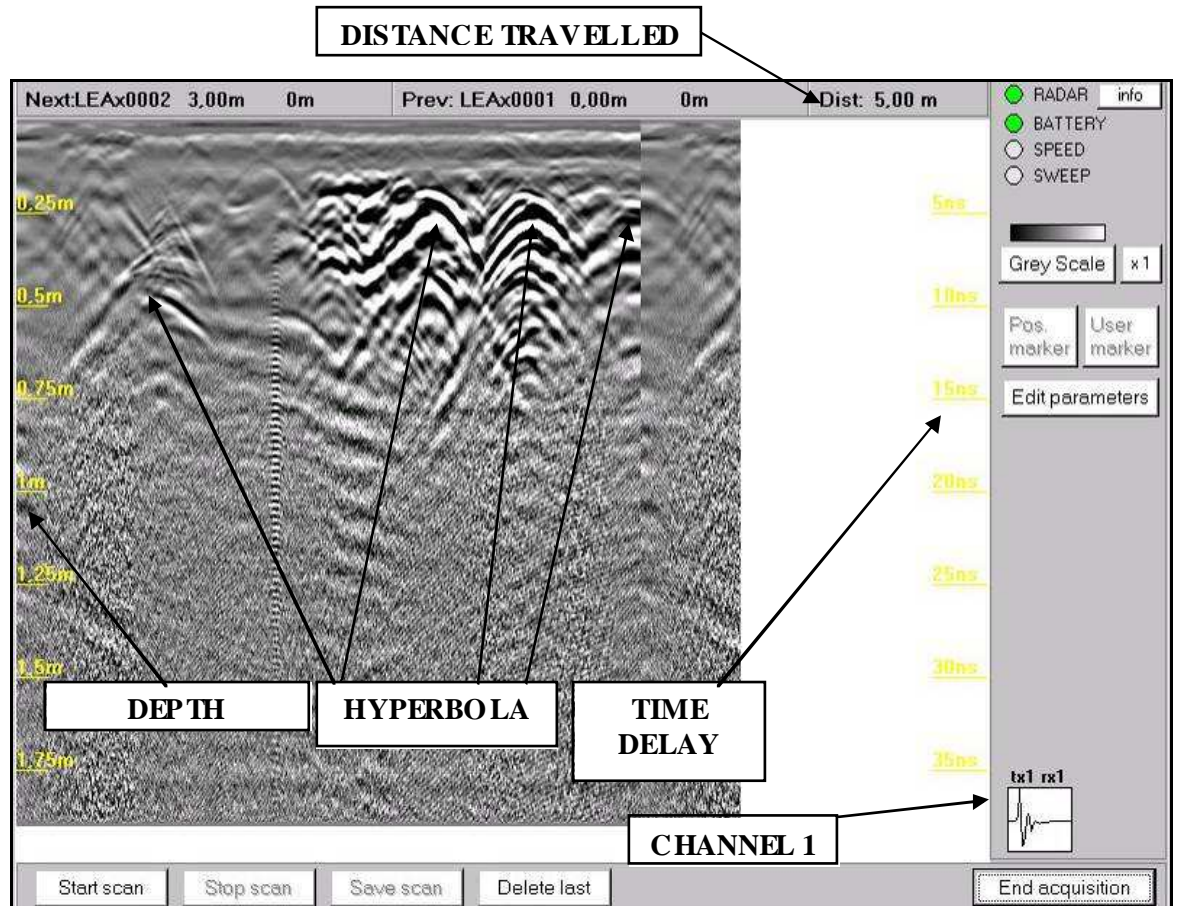

Fig. 4-31 – Radar section during acquisition
- iii. **Marker 1 step:** this field represents the distance between two reference lines marked on the site. The default value is 10 m. This function allows you to realign the radar sections to compensate for any distance variations with respect to the data acquired with the position sensor wheel. This realignment is performed according to the value set in the **Marker 1 step box**. This setting is typically used for realigning longitudinal scans. If you set the marker with a specific position and then press the button shown in Fig. 4-29, contained in the window shown in Fig. 4-31 at a distance of $\pm 20\%$ either before or after this assigned point, the **Pos. Marker** will be transformed into a **User Marker** when the file is saved (see Fig. 4-31 and point 3 of Par. 4.6).
1. Press the  button in the window shown in Fig. 4-27 and start to move the trolley along the desired path (always in the same direction). The results of the single sections will start to appear in real time on the monitor in a window dedicated to channel 1 (see Fig. 4-31). The active channel is indicated with a red box in the sweep window. When a window is completely filled, the data will be written over from left to right and you will notice that the content of the radar section changes line by line. When the system passes across a possible utility or a radar target of any type, typical hyperbola shaped figures will appear with variable contrast in the depth direction corresponding to the impulses received. The presence of targets can be detected by comparing these figures, window by window, however, it is easier to perform this operation during the processing phase. The distance travelled by the trolley (**Distance:....m**) is shown above the radar map in real time, the depth is expressed in meters (**m**) on the left y axis while the time delay expressed in nanoseconds (**ns**) is given on the right y axis as indicated in Fig. 4-31. To visualize another acquired channel in real time, you can click on the small window of the signal corresponding to the desired channel.
2. When you press the Pos. marker button on the window shown in Fig. 4-31, a green line automatically appears on the section at the abscissa.
3. When you come across objects of particular interest such as manholes or macroscopic discontinuities, you can press the User marker button shown in window Fig. 4-31; this will produce a red line at the abscissa.
4. If you move the trolley too quickly, an alarm sounds to warn you that you are losing data; if this problem continues, it is best to stop the scan with the Stop scan button shown in Fig. 4-31 and avoid saving the data by pressing the **NO** button in the window shown in Fig. 4-32.
5. When you want to save the acquired data on the disk, you can choose to press the  button shown in the window in Fig. 4-31, then create the temporary file by pressing the **YES** button in the window in Fig. 4-32.
6. But you can also choose to temporarily save the data acquired up to that point by pressing the  button shown in Fig. 4-31, and continue to push the trolley in the same direction to the end of the scan, then definitively save it using the above procedure. This save scan procedure is particularly recommended for longer scans that may reach up to a few hundred meters in length.